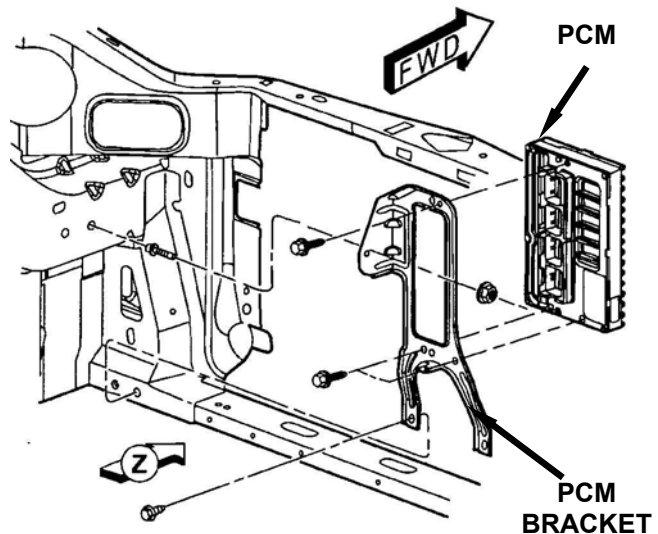

Figure 2
3. Disconnect the four (4) PCM electrical connectors.
4. Remove the three (3) PCM bracket fasteners (Figure 2) and then remove the PCM and bracket assembly.
5. Remove the three (3) PCM bolts, then remove the PCM and discard it (Figure 2).
6. Install the new PCM (Figure 2). Tighten the mounting bolts to 105 in-lbs (11.8 N·m).
8. Connect the four (4) PCM electrical connectors. Attach the wiring harness clip to the PCM bracket.